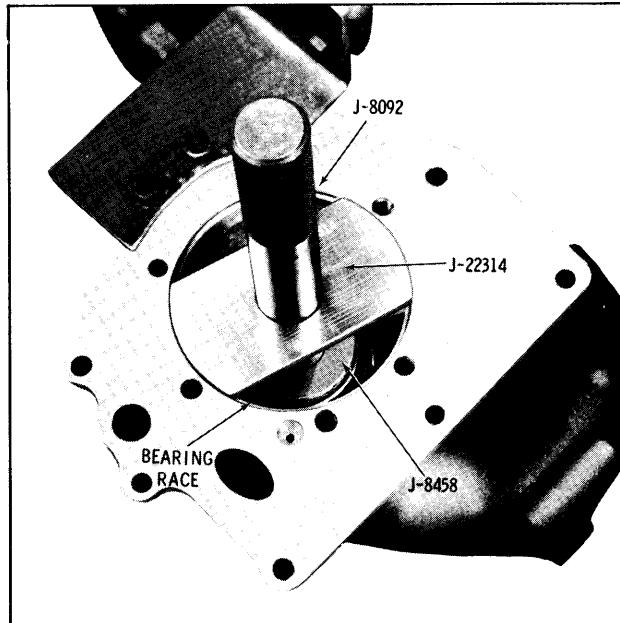

Fig. 3EC-38 Installing Pinion Front Bearing Outer Race
3. Position Tool J-21777-10 on front bearing. Install Tool J-21579 on final drive housing and retain with two bolts. Thread screw J-21777-13 into J-21579 until tip of screw engages Tool J-21777-10. Torque screw J-21777-13 to 20 in. lbs. to pre-load bearing. (Fig. 3EC-39)
4. Remove dial indicator post from Tool J-21777-11 and install Discs J-21777-11 and J-21777-12 as shown in Fig. 3EC-40. Reinstate dial indicator post.